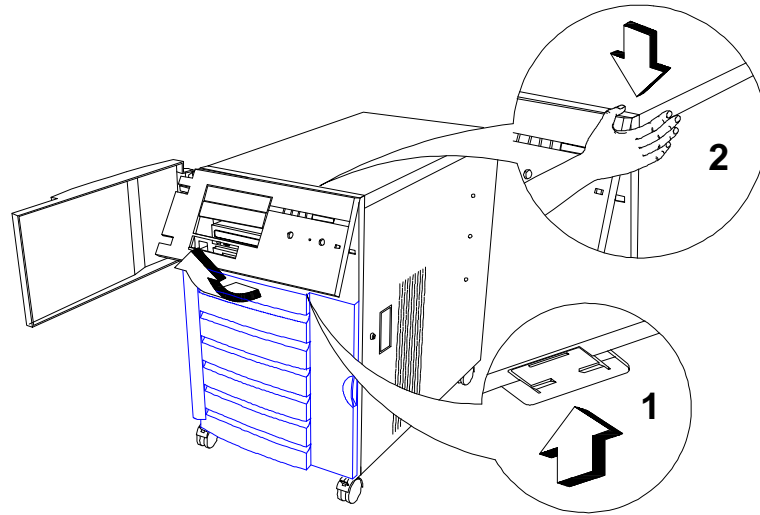

Figure 3-5 Removing the Upper Front Panel Cover
1. Remove the upper front panel door and the front panel cover. See Figures 3-5 and 3-6 for illustrations.